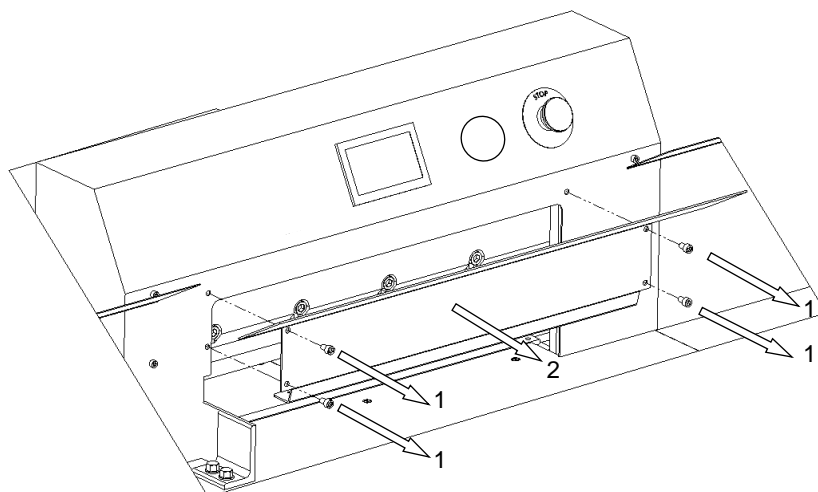

Figure.21
8.1.1.4 Remove the four screws 1 (fig.21) securing the cover 2 and remove cover 2.